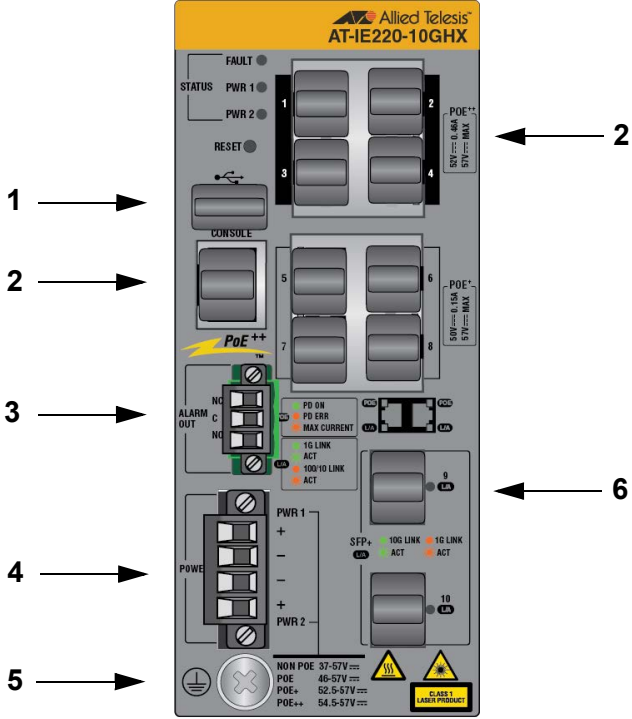

Figure 9. Pre-installed Components
3. Verify the contents of the shipping container. Figure 9 and Table 10 identify the pre-installed components.